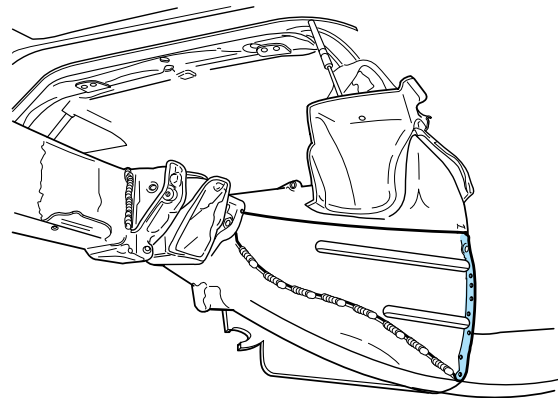
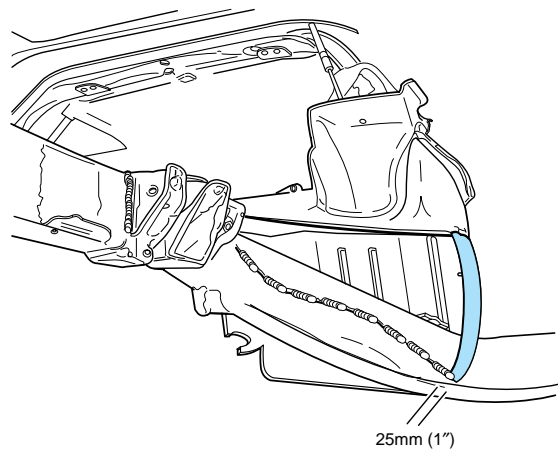

Fig. 3.27 — Apply Tape to Front Edge of Panel
Fig. 3.28 — Cut Panel to Create 25mm (1") Flange
- 2 The outer lock pillar extension panel must be removed to access the rail. Apply a piece of 25mm (1 inch) tape along the lock pillar (Fig. 3.27), and cut to create a weld flange for installing the new extension panel (Fig. 3.28).